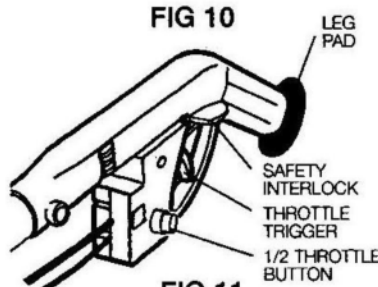

FIG 11
2. Set trigger throttle to 1/2 THROTTLE LOCK by placing hand on handle grip and pushing down safety interlock with thumb, and pulling up and holding trigger with finger (Fig. 11). Then move thumb to hold in 1/2 throttle button, release trigger, then release 1/2 throttle button. Trigger throttle is then engaged at half speed for starting (only).
9. HOT OR WARM START: (Engine has already been started and warmed up). Switch ignition "ON". Set 1/2 THROTTLE LOCK (Fig. 11). Set choke lever to RUN position. Make sure you have a firm footing with one foot on the cross brace. Pull starter until motor runs and let it run for a few seconds before releasing 1/2 THROTTLE LOCK. This allows cooler fuel to enter the carburettor. Allow throttle trigger to slowly pull back to idle.
10. Throttle trigger (engine accelerator control) is operated by pushing down interlock with thumb and pulling on trigger (Fig. 11).